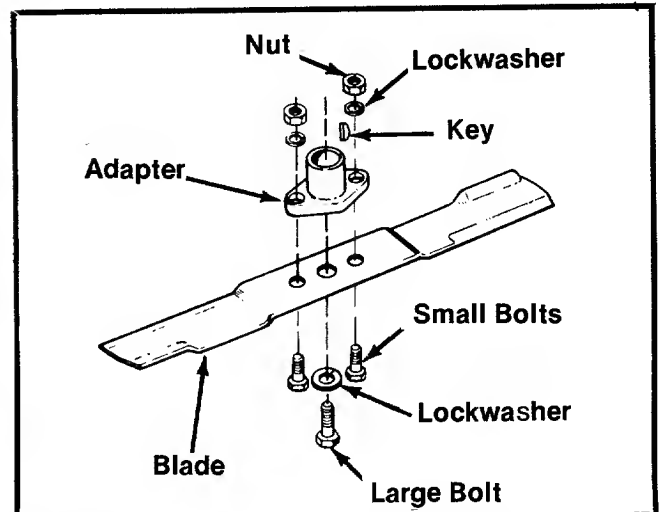

FIGURE 19
4. Remove the two smaller bolts, lockwashers and nuts holding the blade to the adapter. (See figure 19.)